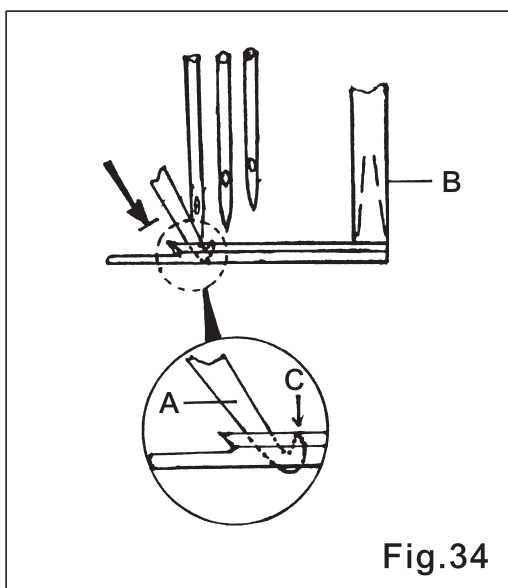

Fig.34
When the Top Trimmer Moving Knife move to the lowest point, the tip (C) of Moving Knife align with top of Spreader (B). (Fig.34)